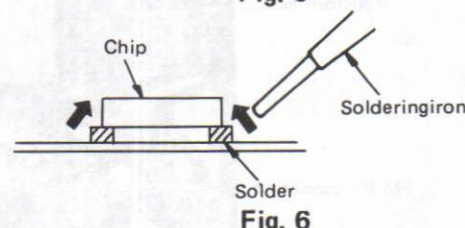

Fig. 6
3. Solder circuit board first and then solder chip in the direction of the arrow as shown in fig. 6.